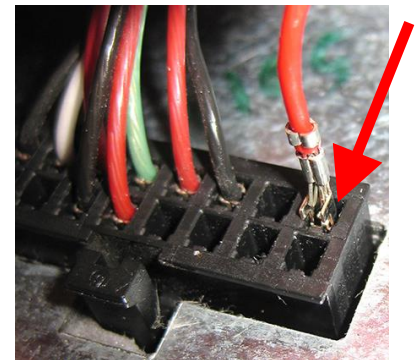

Figure 85
88. Locate the 16-pin connector on the rear of the MIB board. Insert the red wire into the far right rear position (pin 8) (see Figure 85). Ensure the two tabs fit properly into notches in connector.